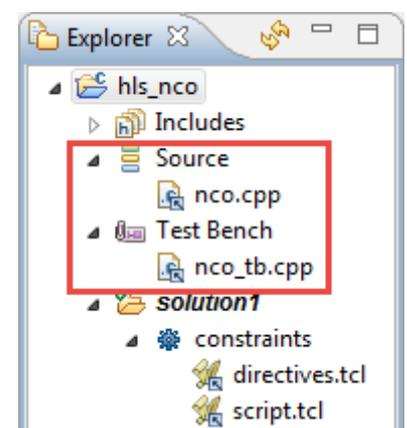

Figure 4.36: Vivado HLS Explorer panel
- (h) In the *Explorer* panel, expand the **Source** and **Test Bench** headings. You should see the source files that we specified in the *New Project Wizard*, as in Figure 4.36.